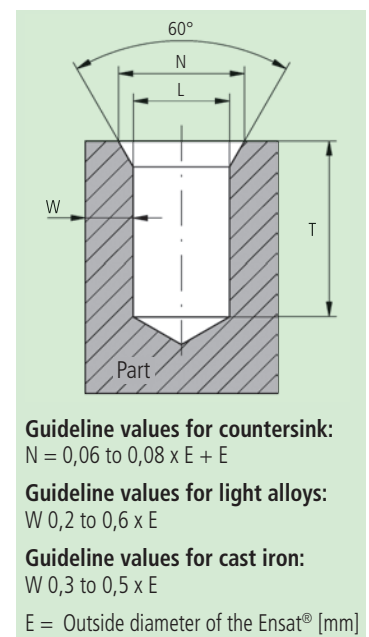

Fig. 6
Countersinking (N) the borehole (Fig. 6) is recommended in order to:
The smallest still admissible edge distance W (Fig. 6) depends on the planned stress level and the elasticity of the material into which the Ensat® is screwed.